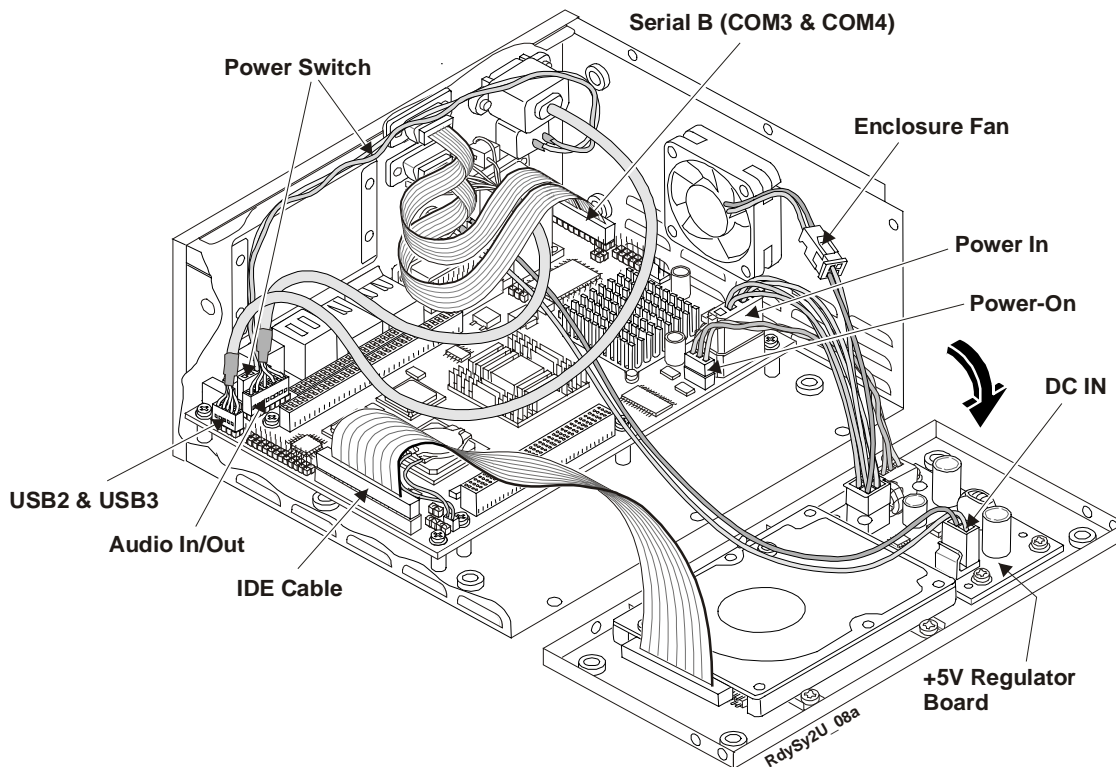

Figure 2-5. Disconnecting the Cables
9. Move the internal cables out of the way to allow installation of the ReadyBoard. See Figure 2-5.